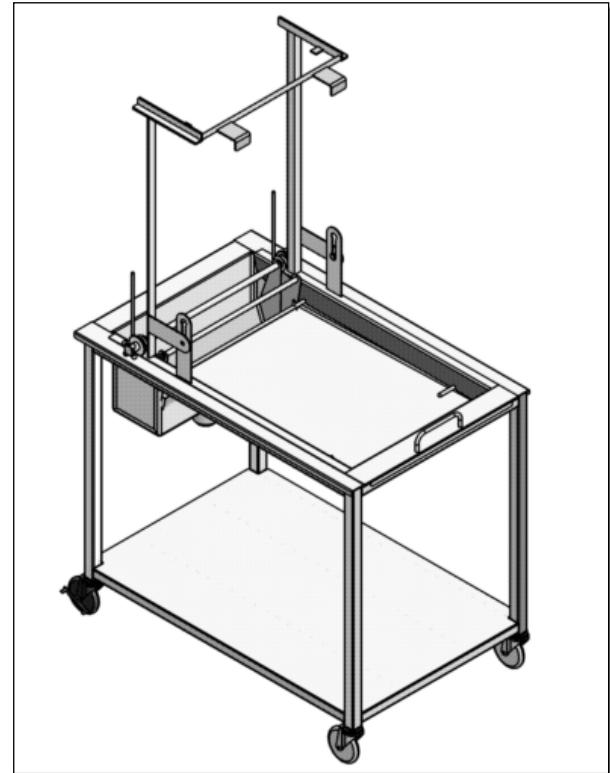

Figure 17, Filling Position
2. TILT the **Upper Frame** assembly up, placing the **Glaze Applicator** into the **Glaze Reservoir** (See Figure 17.)